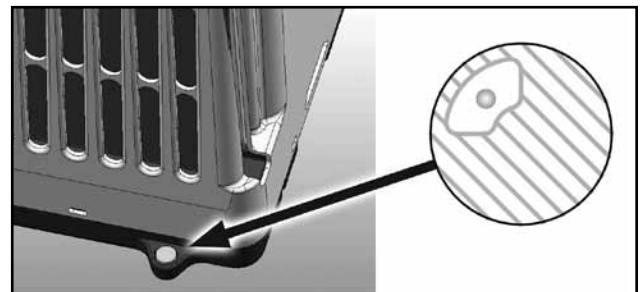

Figure 6: Level bubble should be in indicator area for proper drainage.
Included with your Santa Fe Advance are four leveling feet. It is important to level the unit for proper draining. (See section 5.1.4, Figure 6)
6. Level unit for proper drainage as described in section 5.1.4 (Figure 6) of this manual.
4. The Santa Fe Advance drains via a gravity system. A level indicator has been included near the intake of the unit. To ensure the unit will drain properly, the unit should be positioned so the level bubble appears in the non-shaded area of the level indicator as shown. Refer to Figure 6. If the unit is placed on an unlevel surface, adjust leveling feet using a crescent wrench or 7/16" open wrench. Move handle end of wrench from left to right to lower one foot. Adjust all four feet underneath the unit until bubble in the level dial is in the correct position. Failure to level the unit may result in leakage or improper drainage. See Section 4.2 regarding drain hose installation.